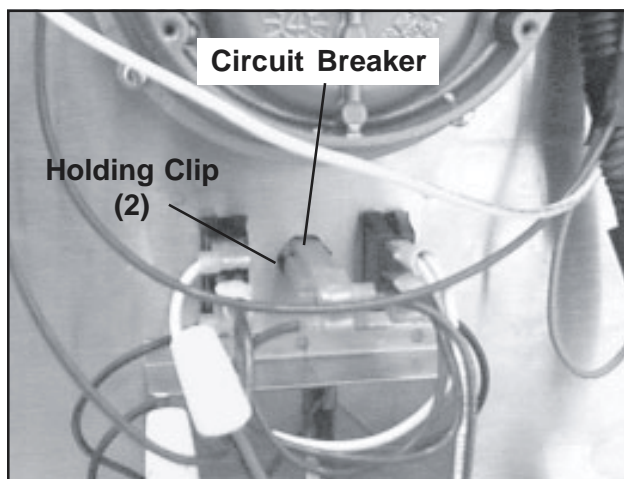

Figure 69. Circuit Breaker (rear view)
4. With a needle-nose pliers, pull the two wire connectors from the terminals on the back of the circuit breaker (Figure 69).